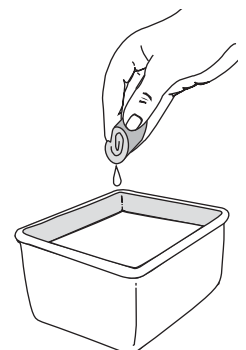

Fig. 34
3. Wash the filter in detergent and water (Fig. 34). Rinse the filter thoroughly. Squeeze out excess water. Allow to dry completely.